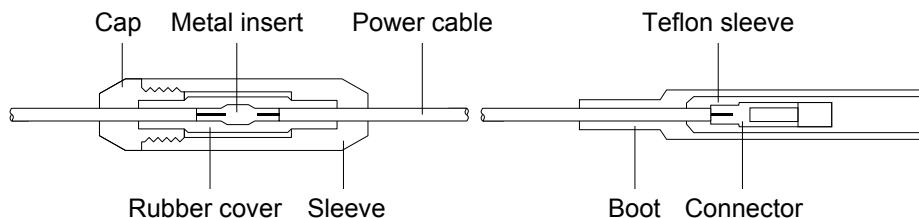

Figure 4-18: Crimping and splicing connector, sleeve, and boot
3. A boot connector and splice kit is supplied with every gauge assembly. The boot connector is composed of three parts; a crimp connector, a Teflon sleeve and a boot. Refer to Figure 4-18 for how the boot connector and splice kit are designed to go together.